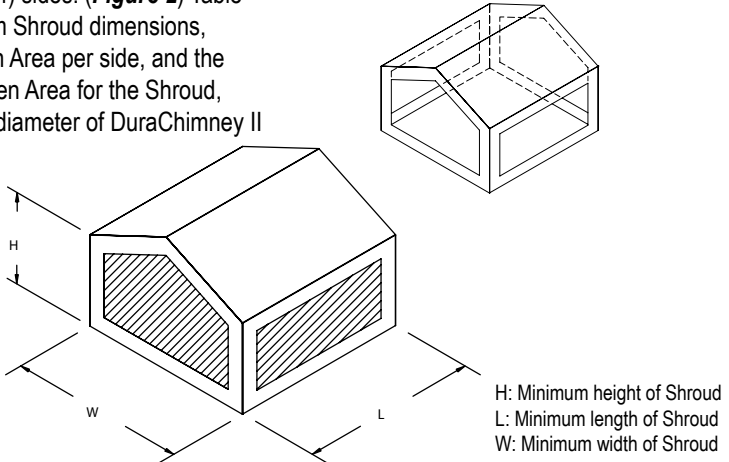

Figure 2
The House style shroud is roughly square or rectangular with a closed top and exhaust openings on four (4) sides. (**Figure 2**) Table 1 lists the minimum Shroud dimensions, the minimum Open Area per side, and the minimum Total Open Area for the Shroud, depending on the diameter of DuraChimney II installed.